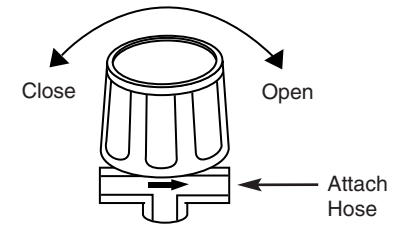

Figure 4
4. **Regulator Knob.** This knob controls air pressure to an air operated tool or paint spray gun. Turning the knob clockwise increases air pressure at the outlet. Turning counterclockwise will lower air pressure at the outlet. Fully counterclockwise will shut off the flow of air completely (See Figure 4).